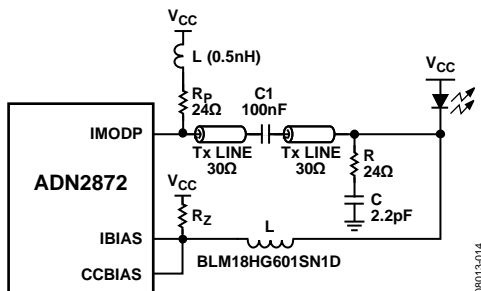

Figure 32. Recommended Interface for ADN2872 AC Coupling
This on-chip resistor helps to damp out the low frequency oscillation observed from some inexpensive lasers. If the on-chip resistance does not provide enough damping, one external  $R_Z$  may be necessary (see Figure 32 and Figure 33).
The schematic in Figure 32 describes the recommended circuit for interfacing the ADN2872 to most TO-Can or coax lasers. These lasers typically have impedances of 5 Ω to 7 Ω and have axial leads. The circuit shown works over the full range of data rates from 155 Mbps to 3.3 Gbps including multirate operation (with no change to PAVCAP and ERCAP values); see Figure 18, Figure 19, and Figure 20 in the Typical Performance Characteristics section for multirate performance examples. Coax lasers have special characteristics that make them difficult to interface to. They tend to have higher inductance, and their impedance is not well controlled. The circuit in Figure 32 operates by deliberately mismaturing the transmission line on the laser side, while providing a very high quality matching network on the driver side. The impedance of the driver side matching network is very flat vs. frequency and enables multirate operation. A series damping resistor should not be used.
The 30 Ω transmission line used is a compromise between drive current required and total power consumed. Other transmission line values can be used, with some modification of the component values. The R and C snubber values in Figure 32, 24 Ω and 2.2 pF, respectively, represent a starting point and must be tuned for the particular model of laser being used. Rp, the pull-up resistor, is in series with a very small (0.5 nH) inductor. In some cases, an inductor is not required or can be accommodated with deliberate parasitic inductance, such as a thin trace or a via placed on the PC board.
Recommended component layouts and gerber files are available by contacting sales at Analog Devices. Note that the circuit in Figure 32 can supply up to 56 mA of modulation current to the laser, sufficient for most lasers available today. Higher currents can be accommodated by changing transmission lines and backmatch values. This interface circuit is not recommended for butterfly-style lasers or other lasers with 25 Ω characteristic impedance. Instead, a 25 Ω transmission line and inductive (instead of resistive) pull-up is recommended. Contact sales for recommendations on transmission lines and backmatch values.
In Figure 32 and Figure 33, Resistor RZ is required to achieve optimum eye quality. The recommended value is approximately 200 Ω ~ 500 Ω.
**Table 6. ADN2872 Response to Various Single-Point Faults in AC-Coupled Configuration, as Shown in Figure 32**